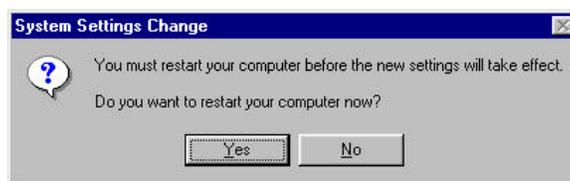

Figure 11: System Settings Change
14. The System Settings Change window appears (Figure 11), instructing you that you must restart your computer for your new driver to take effect.